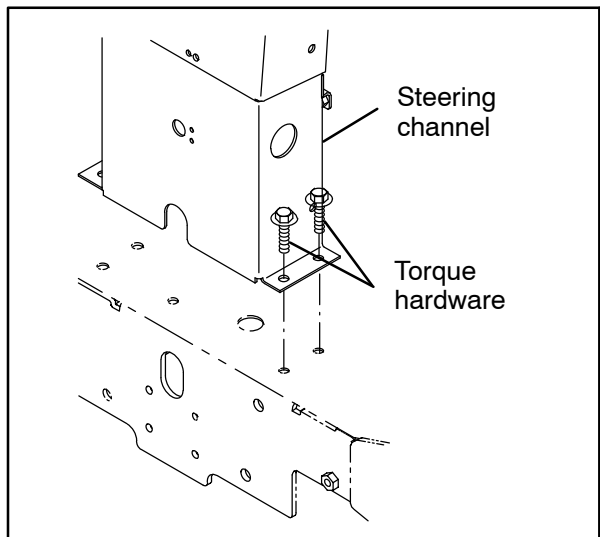

FIG. 60
21. Reinstall the steering channel onto the machine. Tighten the steering channel hardware to 37–48 Nm / 27.3–35.4 ft lbs. (Fig. 60)